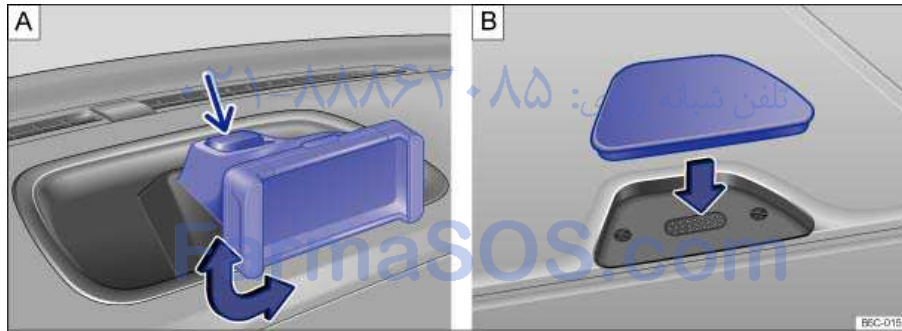

Fig. 148 On the center console. A: Removing the iPhone® holder, B: Installing the cover for the mount.
The iPhone® holder can be swiveled +/- 90° ⇒ fig. 148 A ⇒ ⚠, ⇒ ⚠.
- Pull the cover in the opposite direction of the arrow to remove it from the mount in the instrument panel ⇒ fig. 148 B.
- Hold the portable iPhone® holder securely with one hand and press the release button ⇒ fig. 148 A (small arrow).
- Press the cover in the direction of the arrow until it snaps into place ⇒ fig. 148 B, ⇒ .